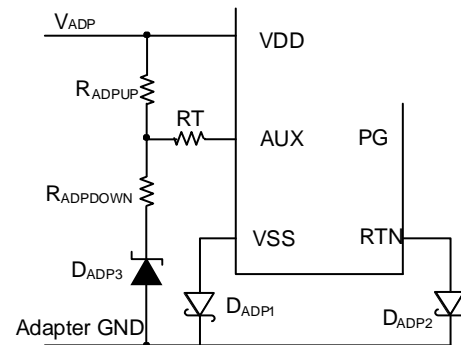

Figure 7: Wall Power Adapter Detection Circuit
When an auxiliary power source such as a wall power adapter powers the device, the divider resistors R_{ADPUP} , $R_{ADPDOWN}$, and D_{ADP3} must be chosen to satisfy Equation (1) for correct wall power adapter detection (see Figure 7).